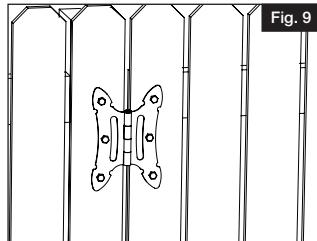

Fig. 9
- e. Fasten screws provided to post (Fig. 9).